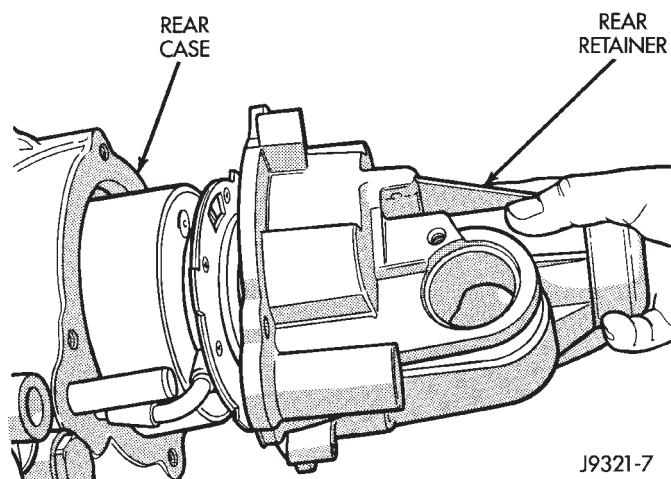

Fig. 64 Rear Retainer Installation
(42) Install rear bearing locating ring in rear retainer, if ring was removed during overhaul.
(43) Apply 3 mm (1/8 in.) wide bead of Mopar gasket maker, silicone adhesive sealer, or Loctite 518 to mounting surface of rear retainer. Allow sealer to set-up slightly before proceeding.
(44) Slide rear retainer onto mainshaft (Fig. 64).